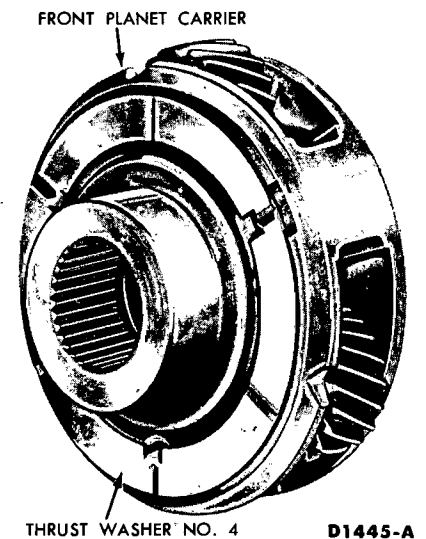
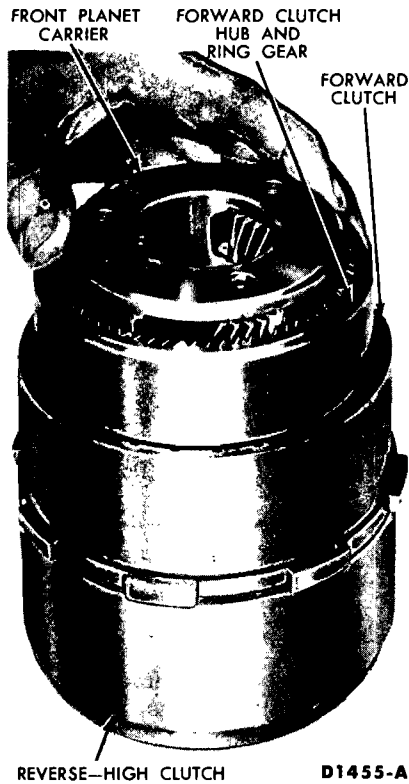

FIG. 113—Number 4 Thrust Washer Location
FIG. 114—Installing Front Planet Carrier
26. Install thrust washer No. 4 on the front planet carrier (Fig. 113). Install the front planet carrier into the forward clutch hub and ring gear. **Check the forward thrust bearing race inside the planet carrier for proper location against the thrust bearing. Make sure the race is centered for alignment with the sun gear on the input shell (Fig. 114).**